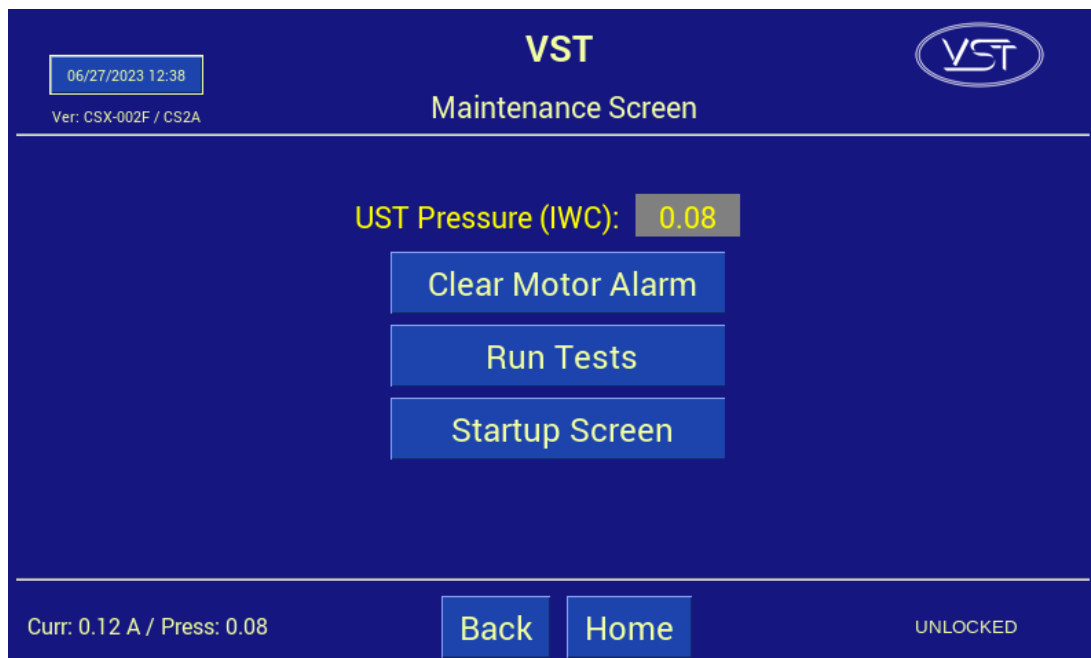

Figure 6-2: Maintenance Screen
See Figure 6-2. (The GREEN MACHINE is now in the Manual OFF mode and will not operate.)
1. Press the “Run Tests” button on the Maintenance Screen. **See Figure 6-2.**